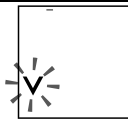

Fig.8
1. Touch "START/STOP". Air is exhausted from the cuff (fig.8).